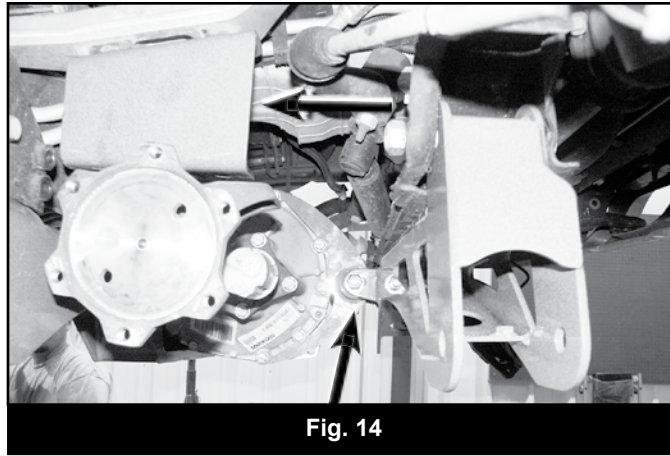

Fig. 14
38. Install the provided passenger's side differential bracket (01186) to the OE differential mounting studs and retain with the original nuts and washers (Fig 14). Leave hardware loose. The wide end of the bracket goes to the front and the open side faces inward.
41. Install the new front crossmember (01180) in the lower front OE control arm pockets using the original control arm pivot bolts, nuts and washers. When install the crossmember, align the front differential in the tabs on the back of the crossmember (Fig 14). Leave mounting hardware loose.